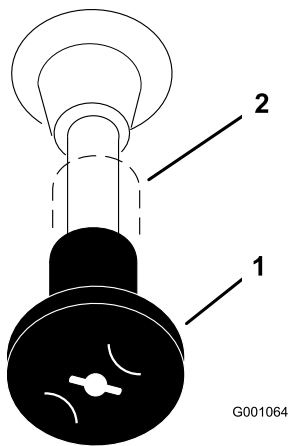

Figure 12
4. Move the choke control to the **on** position before starting a cold engine (Figure 12).
7. After the engine starts, move the choke to off (Figure 12). If the engine stalls or hesitates, move the choke back to on for a few seconds, then move